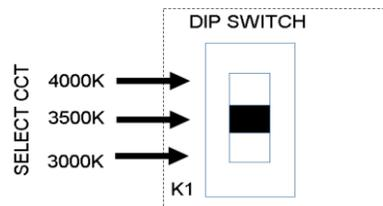

FIG. 1
- A. Adjust CCT switch on back of fixture according to the desired color temperature as seen in FIG. 1. Note: Fixture is preset to 3500K from factory.